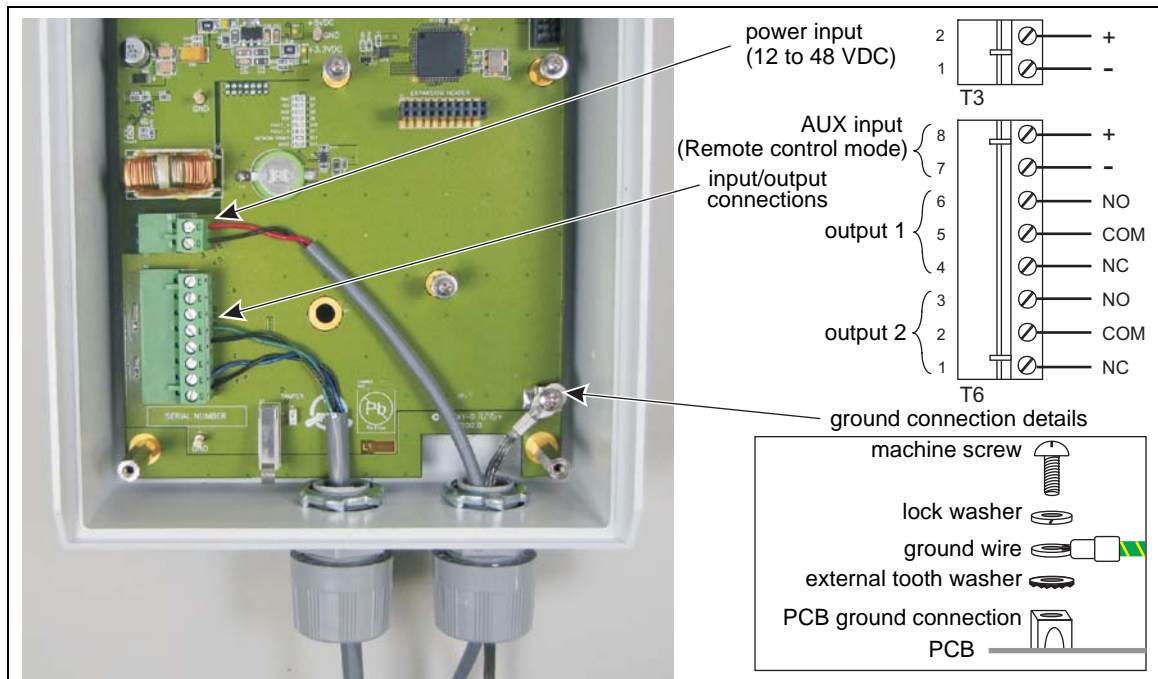

Figure 12 Transmitter/receiver wiring connections
The μ ltraWave wiring connections are made on removable terminal blocks. The screw terminals accept wire sizes from 12 to 24 AWG, with a 6.4 mm (0.25 in.) strip length. Remove the terminal blocks to make the wiring connections. Reinstall the blocks after the connections are complete, and verified. The DC power input is made on T3 and the input/output connections are made on T6. The Aux input is available only through Remote control mode when using network communications. Refer to Figure 12 for an illustration of the μ ltraWave wiring connections.
T6 connects to output 1, output 2 and an auxiliary (Aux) input (see Figure 12 for connection details). In Local control mode each output is configured via the UCM to report user-specified alarm conditions (see Alarm data communications on page 8). The Aux input is not used in Local control mode.
3. Remove the terminal block from T6, make the wiring connections, and then replace the terminal block (see Figure 12).
2. Connect the ground wire to the ground lug on the transmitter/receiver PCB (see Figure 12).
- At each μ ltraWave unit, splice the power cable to a lighter gauge pigtail that is approximately 30 cm (12 in.) long. Connect the negative lead to T3-1 (-) and connect the positive lead to T3-2 (+) (see Figure 12).
To use a local DC power supply outdoors, the power supply must be installed in its own weatherproof enclosure. The local supply can be mounted on the same post as the μ ltraWave unit to keep the wire runs to a minimum. Connect the negative lead to T3-1 (-) and connect the positive lead to T3-2 (+) (see Figure 12).